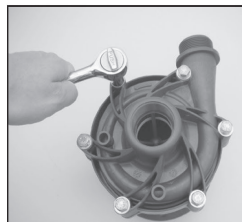

Figure 11
- Place pump on bench with housing facing up. Remove (6) 8 mm housing bolts, lock washers and flat washers (items 15, 16, 17). See figure 11.